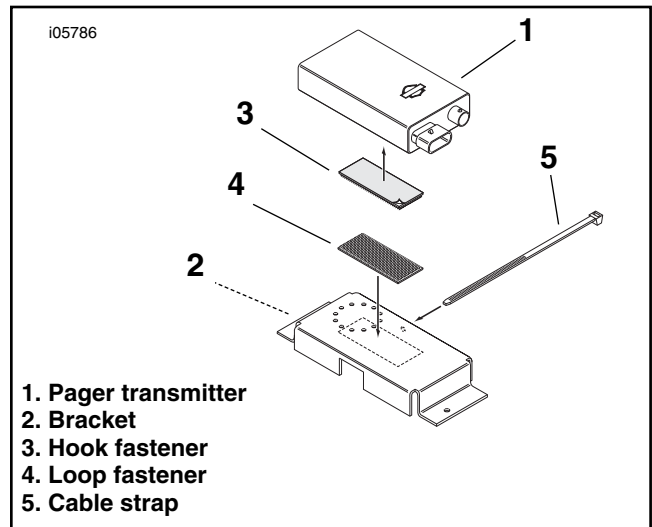

Figure 26. Install the Pager Transmitter on the Bracket
3. See Figure 26. Place the pager transmitter (1) on the inverted bracket (2), and align the pager transmitter so that the rear of the transmitter does not extend past the “kick-up” of the bracket.